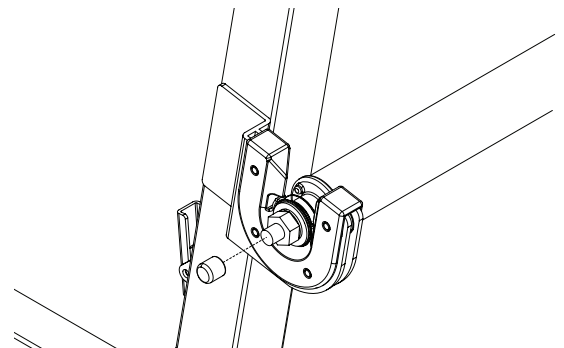

Fig. 9-1
9-1: Slide one (1) rubber end cap onto the end of each bolt, as shown in Fig 9-1, sticking out of your pole ends, short bolt ratchet assemblies and your long bolt ratchet assembly.